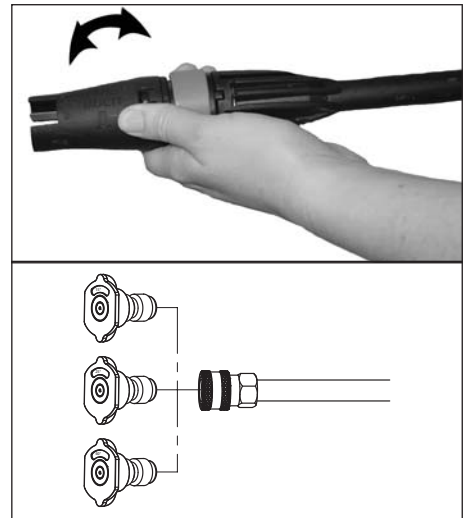

Figure 18 - Spray Adjust
4. Spray pattern shape and intensity can be changed by twisting the spray adjuster at the end of the lance (See Figure 18, top and Figure 19 - PW190100 only) or by selecting different angle's nozzle (See Figure 18, bottom - PW190200 only). Keep hands clear of the front of the lance to prevent injury.